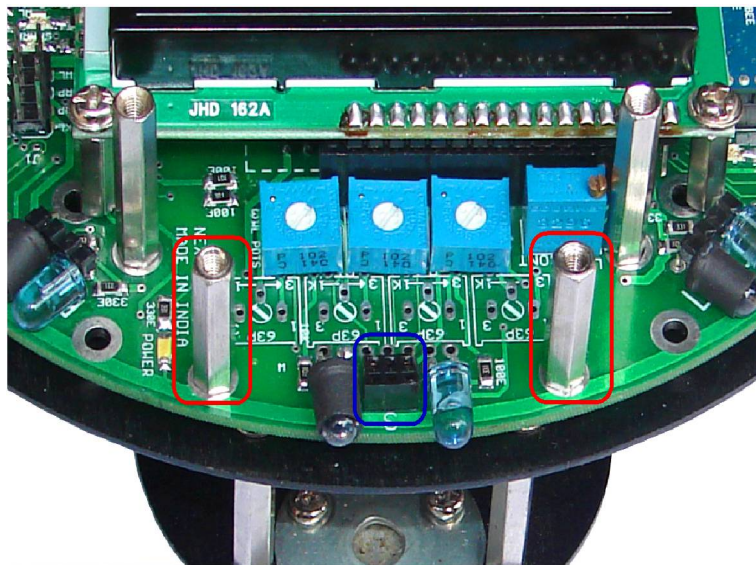

Figure 5.9: Mount 20mm studs from the Sharp sensor mounting kit
Step 2: Mount the 20mm studs on the main board, where sharp sensor is to be fitted. In figure 5.9, area highlighted with the red border shows the mounted studs from the Sharp IR range sensor mounting kit.